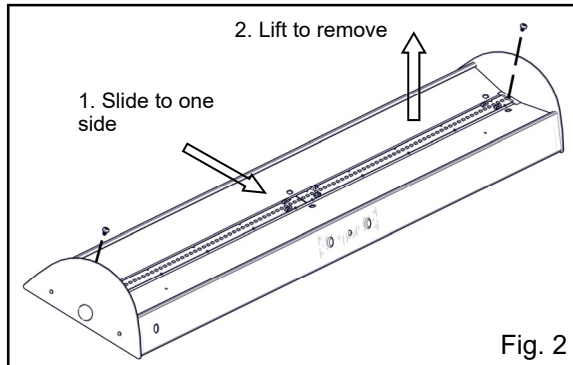

Fig. 2
5. Slide LED tray to one side then lift up to remove. Disconnect LED power cable from LED driver and remove tether cable. (place tray in safe place to avoid damage) Fig. 2